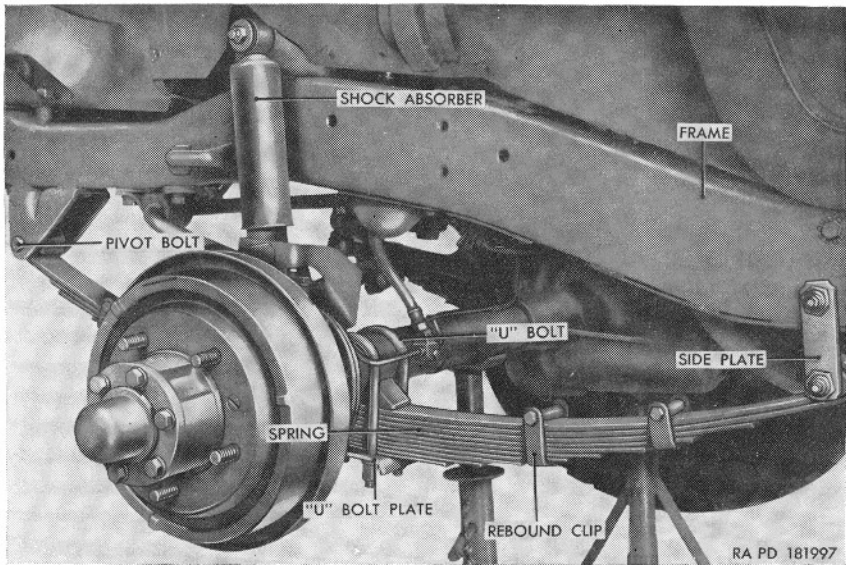

Figure 145.1. (Added) Front spring and shock absorber M170—installed.
a.1. (Added) Springs M170. Both the front and rear spring assemblies are of the semi-elliptic-type with wrapped eyes on the two top leaves. The front spring (fig. 145.1) is a 10 leaf spring and the rear spring is an 11 leaf spring. One center bolt and four rebound clips secure the spring leaves of each spring assembly. Each spring assembly is suspended lengthwise from the frame by a shackle at the rear and a pivot bolt at the front. The pivot bolts ride in bushing-type eye bearings while the shackles are mounted in internally and externally threaded bushing-type shackle bearings. U bolts and U-bolt plates secure each spring assembly to its respective axle.